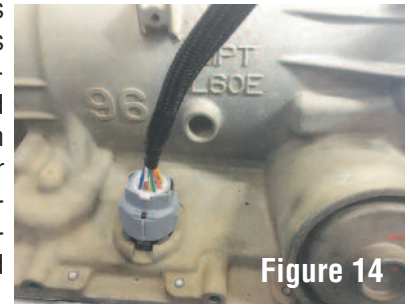

Figure 14
**Two Trans Connectors:** These two connectors plug into the sub-harness provided in the Transmission Control Optioned Kit and then the other end of the harness is connected to the plug on your transmission. (See Figure 14) NOTE: These are not connected unless you are using the FiTech optional Transmission Control.